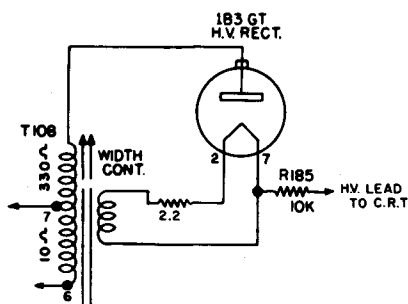

Fig. 35 — Crosley
**Improving operation and prolonging life of h-v rectifier (see Fig. 35).**